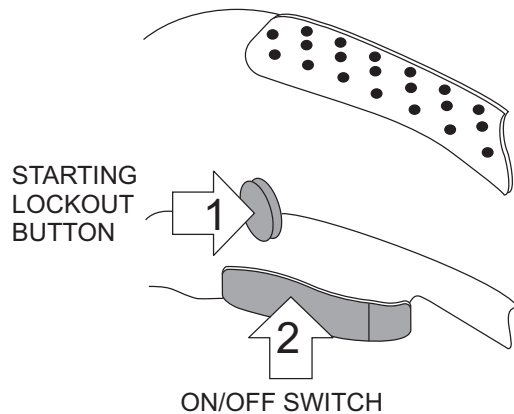

Figure 6. ON/OFF Switch
1. To start, press the starting lockout button then press the ON/OFF switch (Figure 6). The integrated electronic controls will start the machine in a controlled speed.